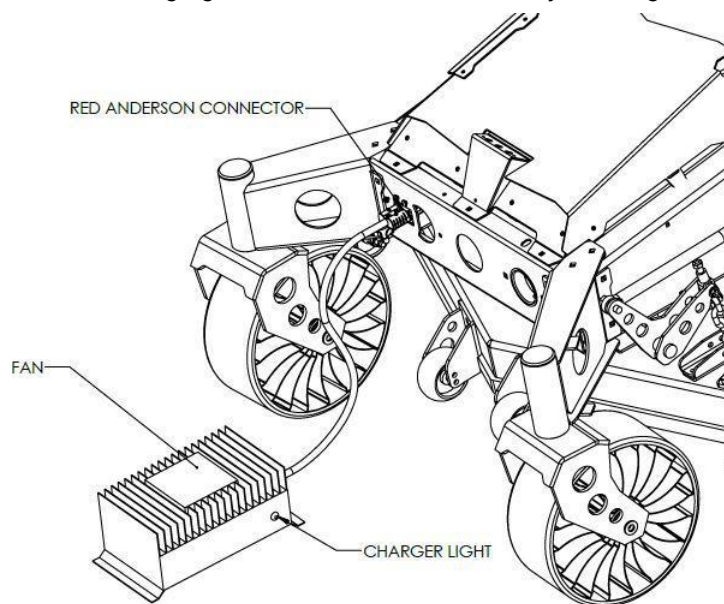

Fig. 21
- 1) Connect the charger to the mower charging port with the Red Anderson Connector in front. (Fig.21) Note: Mower will not drive when charger is plugged into any charge port. Press the push button start. (No need to enter passcode) Plug charger into 120VAC-240VAC wall outlet. You will see a red light on the charger unit and cooling fan will turn on. This will indicate the charger is functioning properly.